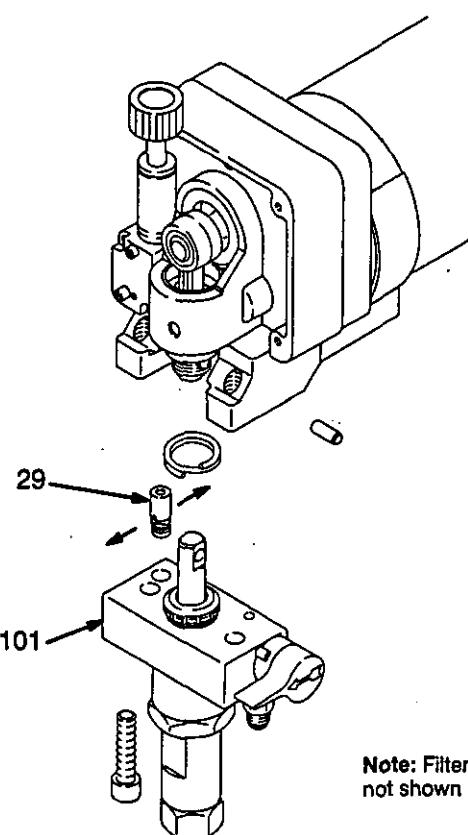

Fig 32
**NOTE 1:** See Fig 32 for this procedure.
2. Use a pull-twist motion to remove the transducer (29) from the pump manifold (101).
6. Align the holes in the transducer as shown by the arrows in Fig 32.